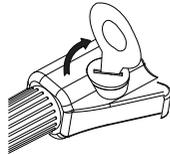

fig.3
- Tilt the battery cover to align it with the snap position and press it down, then use a spanner to turn the battery cover clockwise to lock it. (fig.3)